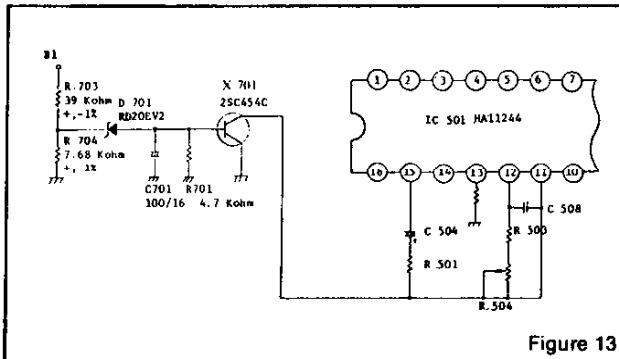

Figure 13
The protector circuit consists of the components shown below in Fig. 13 with a circuit description.
- Insert service tip "N" on Neck circuit board to "S" on Vert./Horiz. circuit board (See Fig. 13). To check, use the Green raster at low intensity. Be sure to return the service tips to their original positions for the next check.